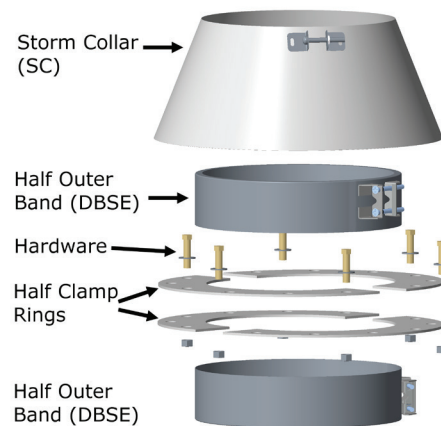
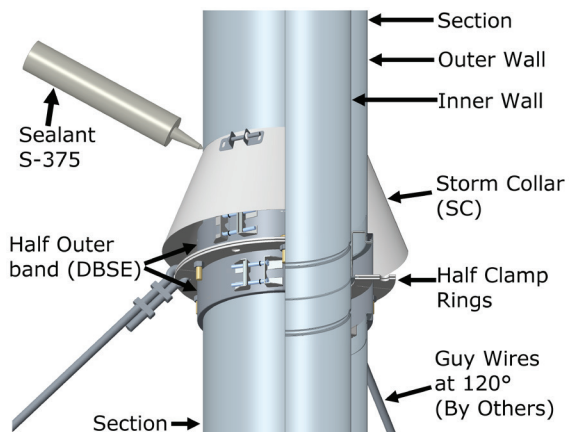

Figure 66a - Guy Section Details
Figure 66b - Guy Section Installed
The Guy Ring (GR) consist of half clamps installed on the on the inner wall flanges of a joint of two sections. The Clamp rings have holes at 60° apart, to have the choice of adding guy wires (by others) at 120° (Ø5 to Ø20) or 60° apart. The guy wires are fixed to the roof by the mean of tensioner or anchor (by others). Rigid Brace can also be used on the Guy Ring. The Storm Collar (SC) is placed around the chimney and sealed to the casing with outer joint sealant **S-375**. See **Figure 66a** for parts included in the Guy Ring and **Figure 66b** for one installed..